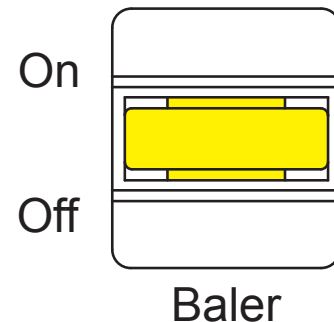

Figure 64. Baler Drive Switch
9. Move the Baler Drive Switch (see Figure 64) to the OFF position (disengaged).
2. Move hydrostatic drive control lever (A) to neutral park.
3. Move engine speed switch (B) to low .
4. Move field/road switch (C) to field position.
5. Move the Baler Drive Switch (see Figure 64) to the OFF position (disengaged) (D).